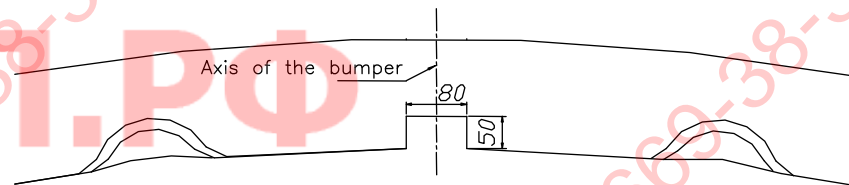

Fig. 2. Bumper cut out
2. In bottom part of the bumper cut out fragment (in axis) according to figure 2.